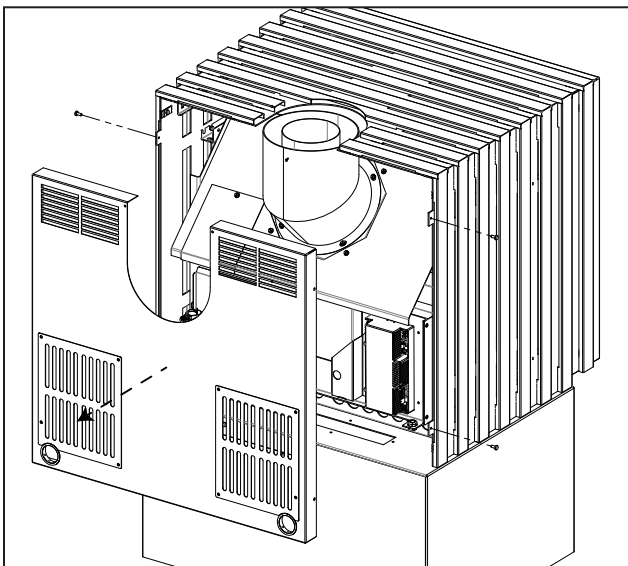

Figure 20: Back Cover Removal
The back cover is secured to the unit with four (4) #8 T20 screws, two on each side. Remove these four screws and pull the cover away from the unit as shown in Figure 20.